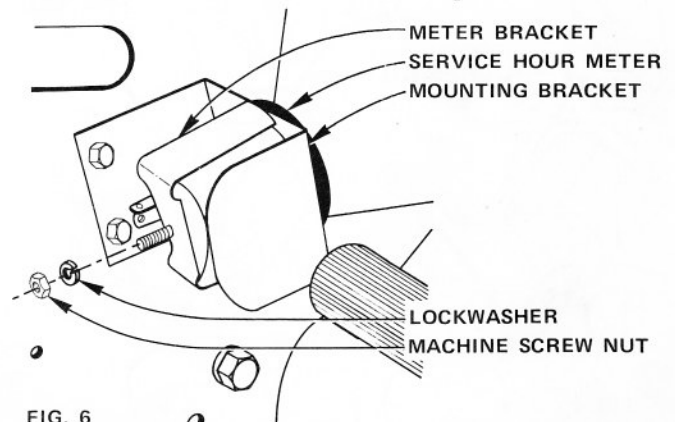

FIG. 6
5. Install Meter in Bracket and secure with Meter Bracket and Lockwasher and Machine Screw Nut (Fig. 6).